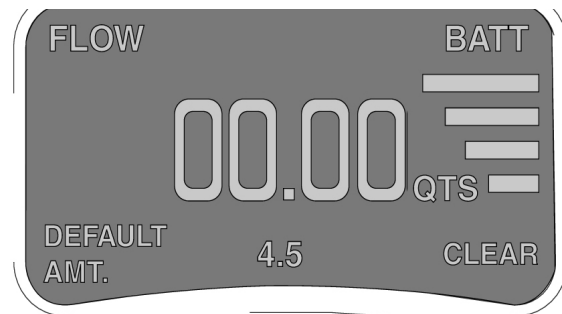

FIG. 17
2. Press ACTIVATE to enter the dispense mode. The preset default amount entered into the PC will appear on the meter. See FIG. 17.